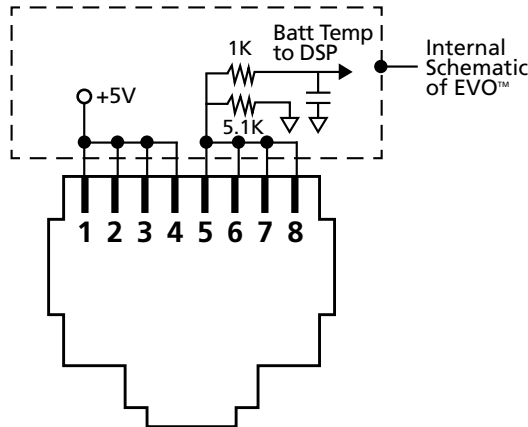

Fig 3.13 Pinout of RJ-45 Jack marked "Battery Temp Sensor" on the front panel of EVO™ [6 in Fig 2.1].
RJ-45 Plug [*2 in Fig 2.5(a)*]: The RJ-45 Plug is required to be plugged into the RJ-45 Jack marked “Battery Temp Sensor” on the front panel of EVO™ (*6 in Fig 2.1*). Pinout of the RJ-45 jack is shown in Fig 3.13.
Pinout of this RJ-45 Jack [marked "Battery Temp Sensor" on the front panel of EVO™ (6 in Fig 2.1)] is shown at Fig 3.13 below:
- o Connect to any of Pins 1/2/3/4 [Refer to Fig 3.13 for pinout of RJ-45 Jack. Pins 1 to 4 are internally shorted]
- o Connect to any of Pins 5/6/7/8 [Refer to Fig 3.13 for pinout of RJ-45 Jack. Pins 5 to 8 internally shorted]